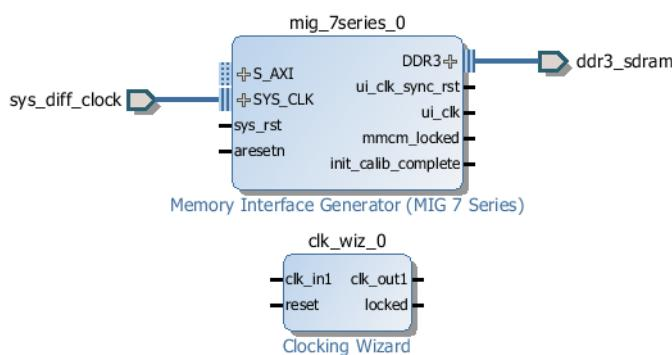

Figure 5-9: **Clocking Wizard**
1. Select the **Add IP** command, type **Clock** into the search field, and select the **Clocking Wizard** IP. Figure 5-9 shows a Clock Wizard IP with a Memory IP core within a design.